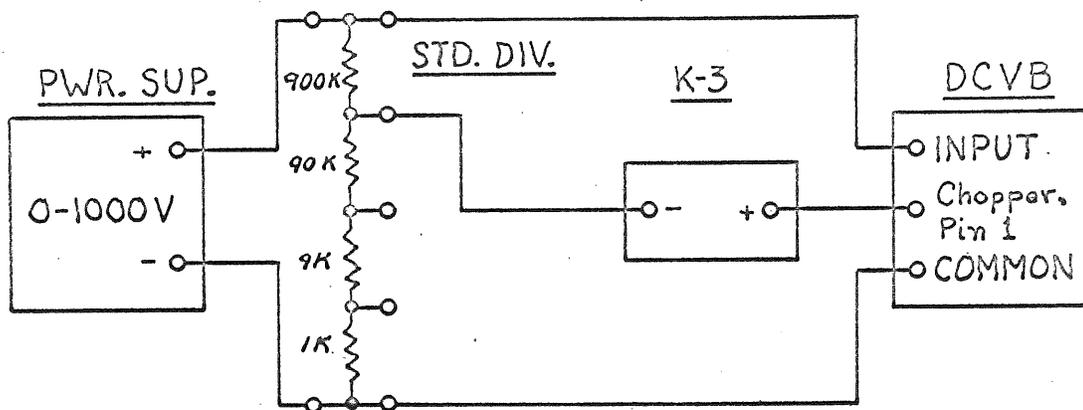

Figure 2
- 9.1 Connect circuit as shown in figure 2.
- 10.1 Connect circuit as shown in figure 2, using HV INPUT jack.